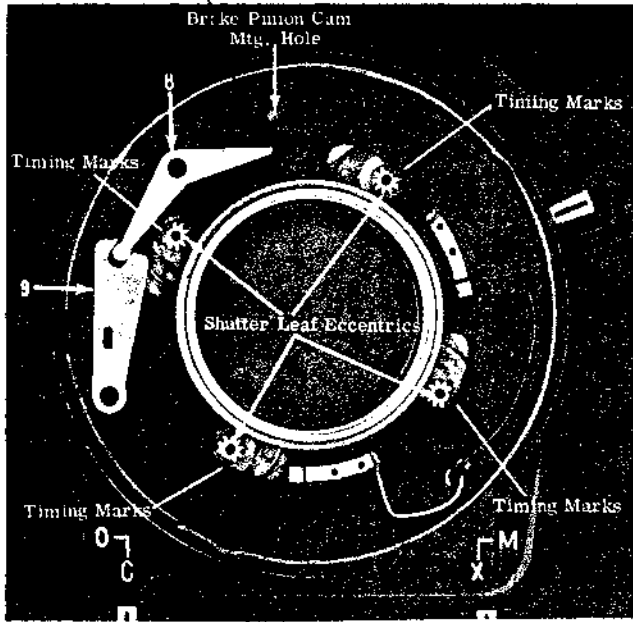
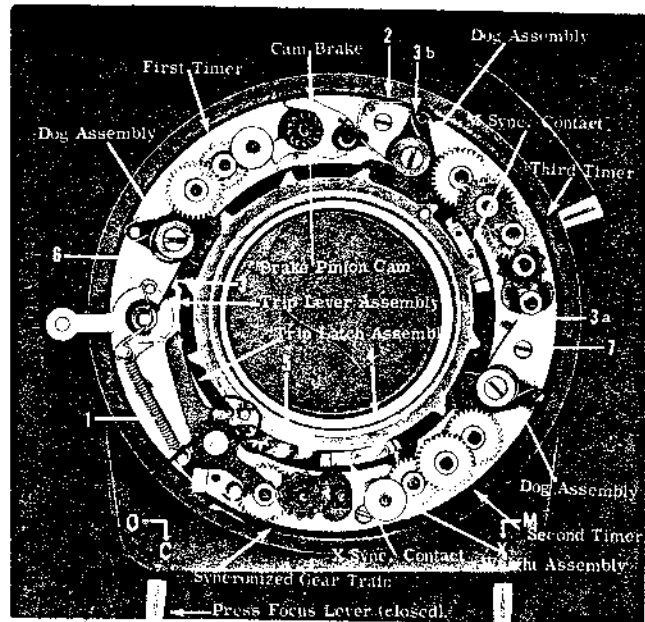

Figure 12.
Figure 13.
- a. Place cable release lever (9, Figure 12) and trip lever (8) over machined bosses on front housing.
- c. Before assembling control plate complete (6, Figure 13) into front housing, apply a thin coat of lubricant (39484P8) to all surfaces of brake pinion cam. Position control plate so that brake pinion cam locates in mounting hole in front housing (Figure 12), and post on trip lever assembly (Figure 13) locates in slot in cable release lever (9, Figure 12). Apply sealant (39491P4) to threads of four screws (7, Figure 13) and secure control plate.
- e. Locate timing marks on four shutter leaf eccentrics (Figure 12) so that centerline between timing marks of each eccentric is visually aligned to center of shutter. Timing marks on each eccentric should point directly toward outside of housing. Apply a thin coat of lubricant (39484P2) to
inside diameter and bottom surfaces of drive gear assembly (5, Figure 13). Position three dog assemblies away from center opening, and assemble drive gear so that front face of a tooth containing a spring post is against surface (z) on trip lever assembly. Do not allow any other lubricant to contact drive gear. Assemble drive gear bearing (4) with step facing up.